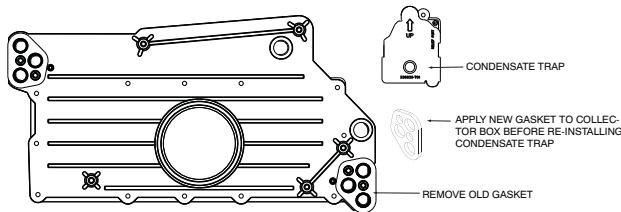

Fig. 3 - Collector Box Gasket Condensate Trap
2. Remove collector box gasket. Verify old collector box is reusable or obtain new from distributor (preferred). See Fig. 3.